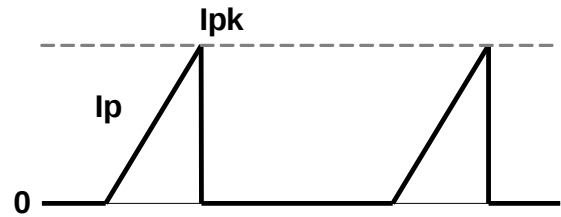

Figure 3: Primary Current Waveform
A current sense resistor (R_s) is used to sense the primary current $I_p(t)$ (see Figure 3). The current rises linearly at a rate shown in Equation (1):